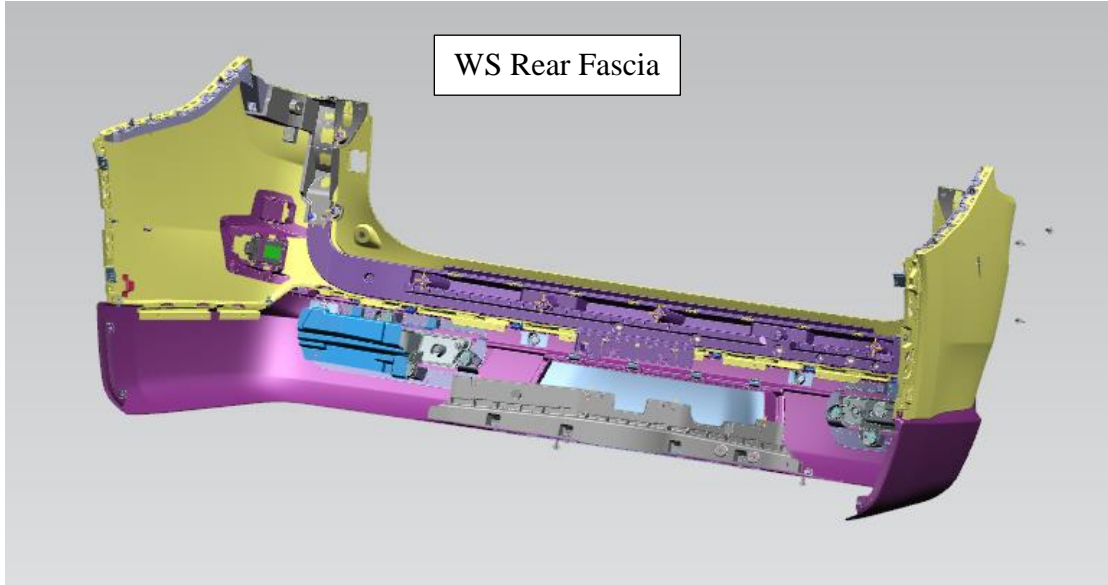

Fig 1
4. The rear fascia (Figure 1, 2, and 3) may be damaged, or warped (Rear mid-range radars).